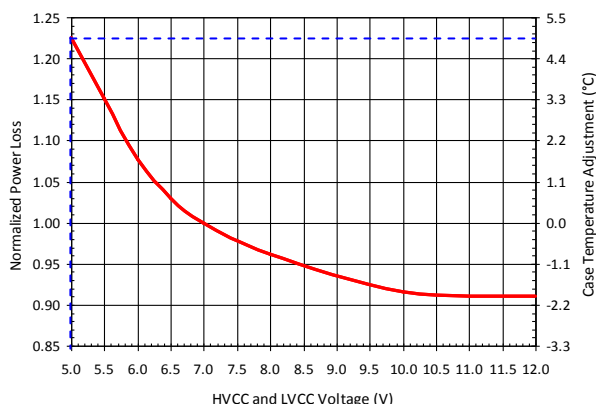

Figure 14: Normalized Power Loss vs. HVCC & LVCC Voltage
- 5) Determine the MOSFET drive voltage normalizing factor with  $PVCC$  (HVCC/LVCC) = 5V, which is 1.22 based on the dashed lines in Figure 14.
- 12) Determine the case temperature with  $PVCC$  (HVCC/LVCC) = 5V, which is  $+4.9^{\circ}$  based on the dashed lines in Figure 14.